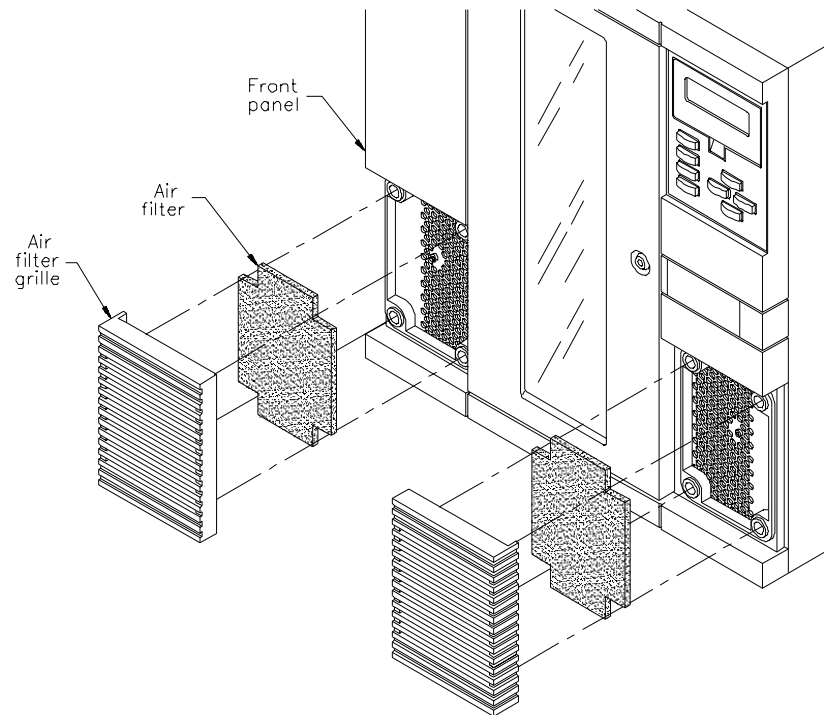

Figure 5-3 Replacing the air filters
The library has two air filters, one on each side of the front panel (see Figure 5-3). You should replace the air filters once a year (or more frequently if the library is operating in a dusty environment). Replacement filters are available from Tektronix (part number 378-2082-00).
1. As shown in Figure 5-3, push against the outer edge of each air filter grille and pull the grille off the front panel.